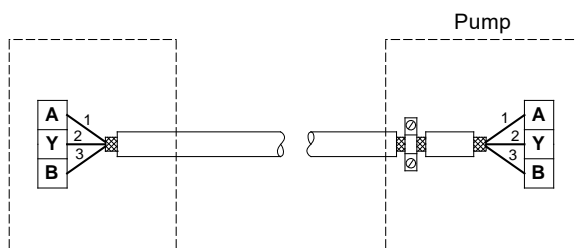

Fig. 12 Connection with screened 3-core cable
- If the unit has no cable clamp as shown in fig. 12, leave the screen unconnected at this end.